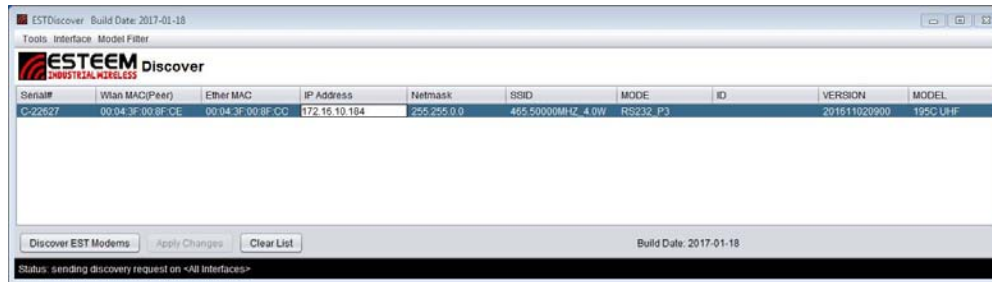

Figure 2: ESTeem Discovery Utility
4. The ESTeem 195M/H/C will be displayed (Figure 2). If the ESTeem 195M/H/C is not on the same IP subnet as the computer, double click on the IP, Netmask or Gateway and make the necessary changes. Press the *Apply Changes* button when complete.